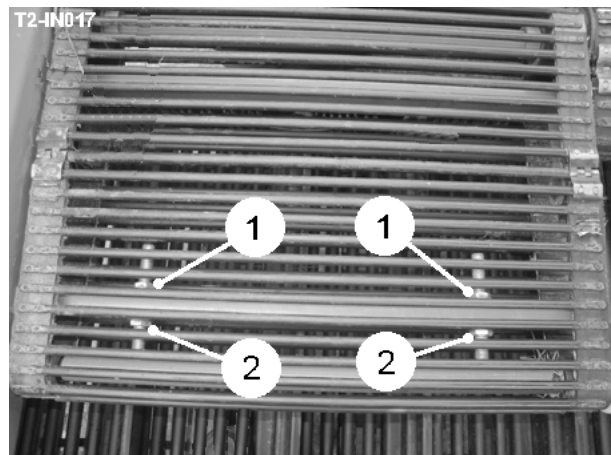

Fig 19
The spreader webs are tensioned using the locknuts (item 1 & 2, fig 19). Ensure both sides of the web are adjusted evenly.